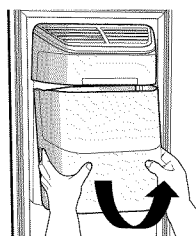

Figure 1
- Hold the handle as shown in Figure 1.